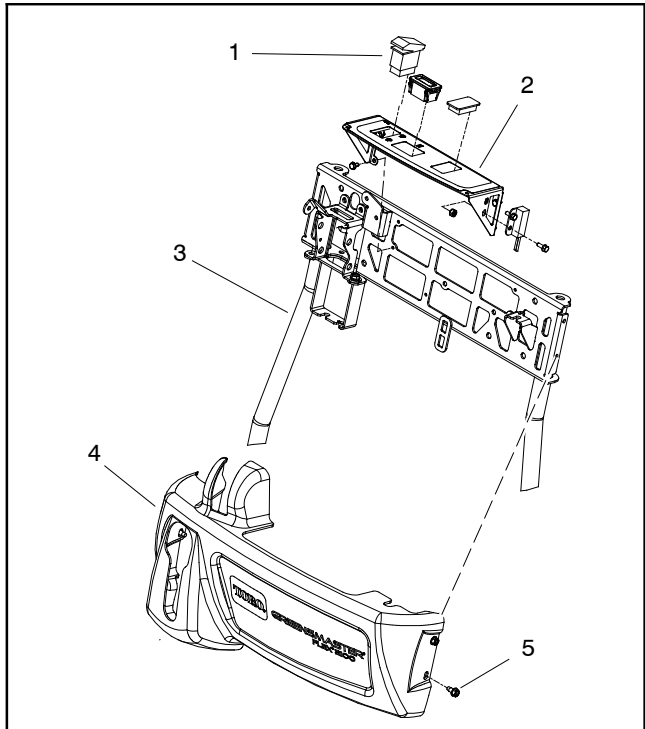

Figure 5
2. Remove console cover from handle to allow access to on/off switch (Fig. 5).